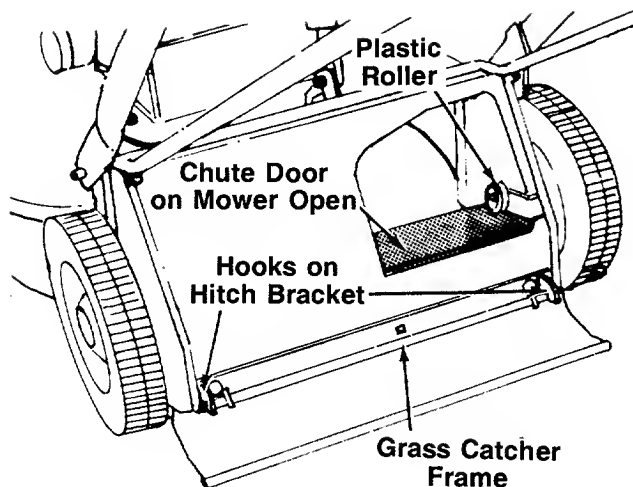

FIGURE 13.
1. Attach the grass catcher frame to grass catcher hitch bracket on rear of the mower by hooking grass catcher into hooks on grass catcher hitch bracket. See figure 13.
2. Lift the rear of grass catcher up. The roller on the grass catcher will push the chute door on the mower open. See figure 13.
Figure 13 is shown with the chute door open for clarity only.